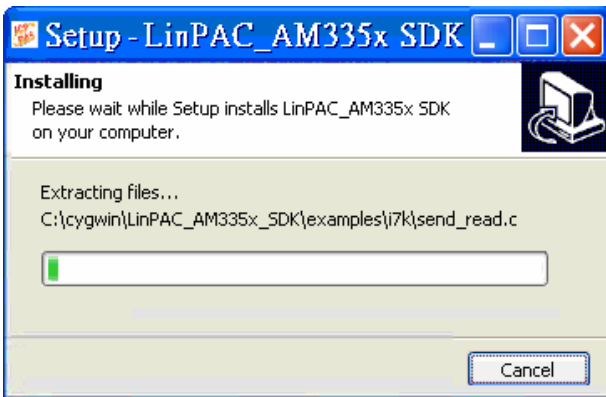

Fig. 2-11
5. The LinPAC AM335x SDK files will be extracted and installed and a progress bar will be displayed to indicate the status, refer to Fig 2-11.